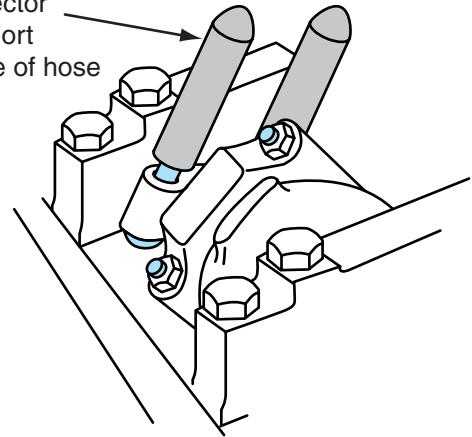

FIGURE 4.79 Install hoses or rod bolt protectors on the rod bolts before removing the piston and rod assembly.
- The crankshaft is soft and it nicks easily. To protect the crank, install rod bolt protectors (available from your parts source) or pieces of fuel hose 3 to 4 inches long on the rod bolts before removing the rods (**Figure 4.79**). If you use pieces of hose, do not cut them too short. Longer ones can be removed easily, even though they become slippery when coated with oil.